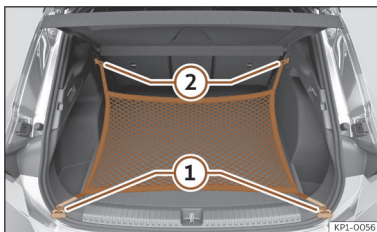

Fig. 192 In the luggage compartment: rings ① and hooks ② for attaching the net bag.
- Secure the short net hooks to the fastening rings >>> **Fig. 192** ① >>> ⚠. The bag zip should be facing upwards.
- Secure the straps in the bag hooks ②.